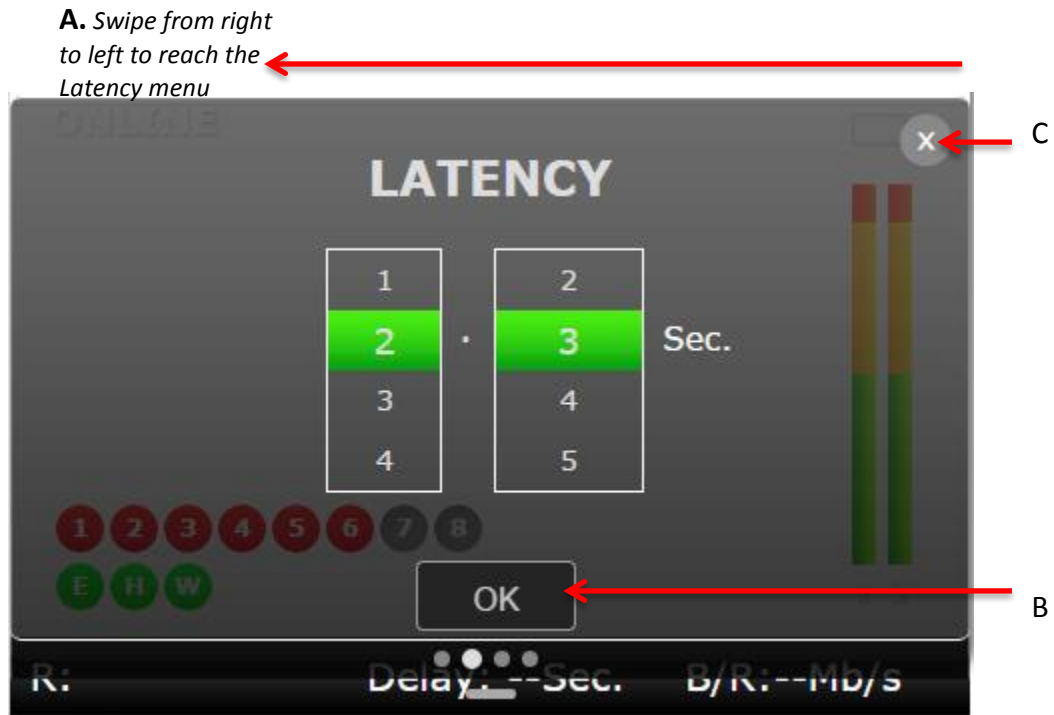

Figure 11
Access that drop down menu by sliding a finger from the top of the screen to the bottom. Swipe from right to left one time to go to the "Latency" interface (A) (Figure 11). On this page, users can manage the second and sub-second latency. To select the latency, simple scroll through the seconds and sub-seconds until the desired latency is highlighted in green. Then click "OK" on the bottom of the screen (B).